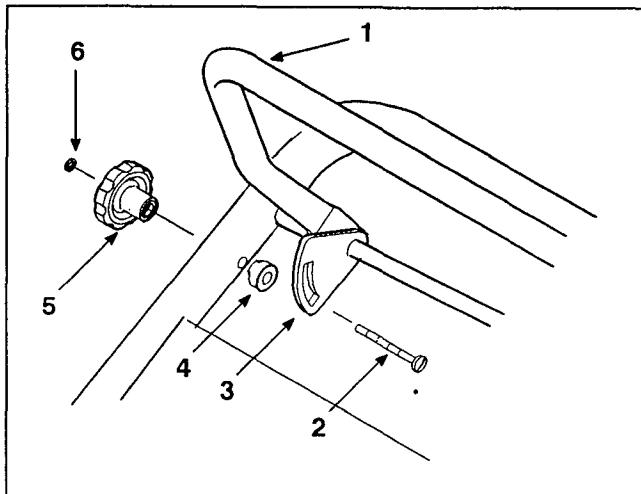

Figure 5
SECURE REFERENCE HANDLE (Fig. 5)
2. Loosely secure handle assembly bracket to upper handle with a carriage bolt, latch spacer, handle knob and bolt retainer as shown in fig. 5.